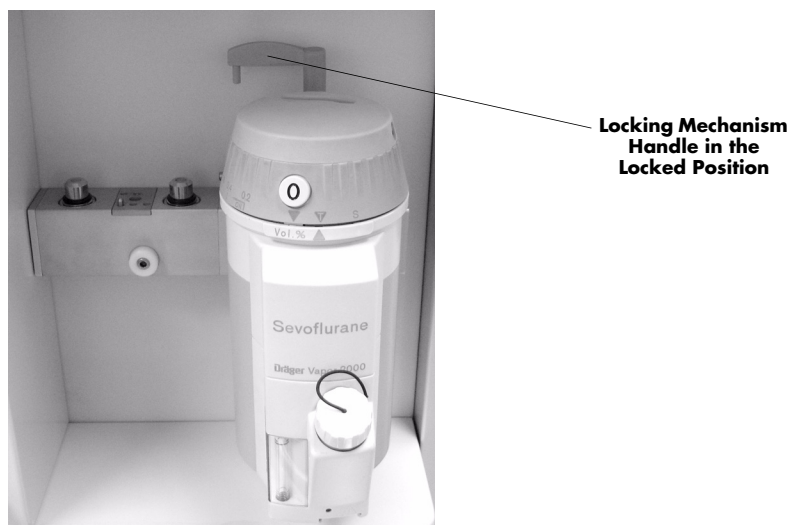

FIGURE 2-2 Vaporizer, Locked
2. Rotate the locking mechanism handle clockwise into the locked position as shown in FIGURE 2-2.